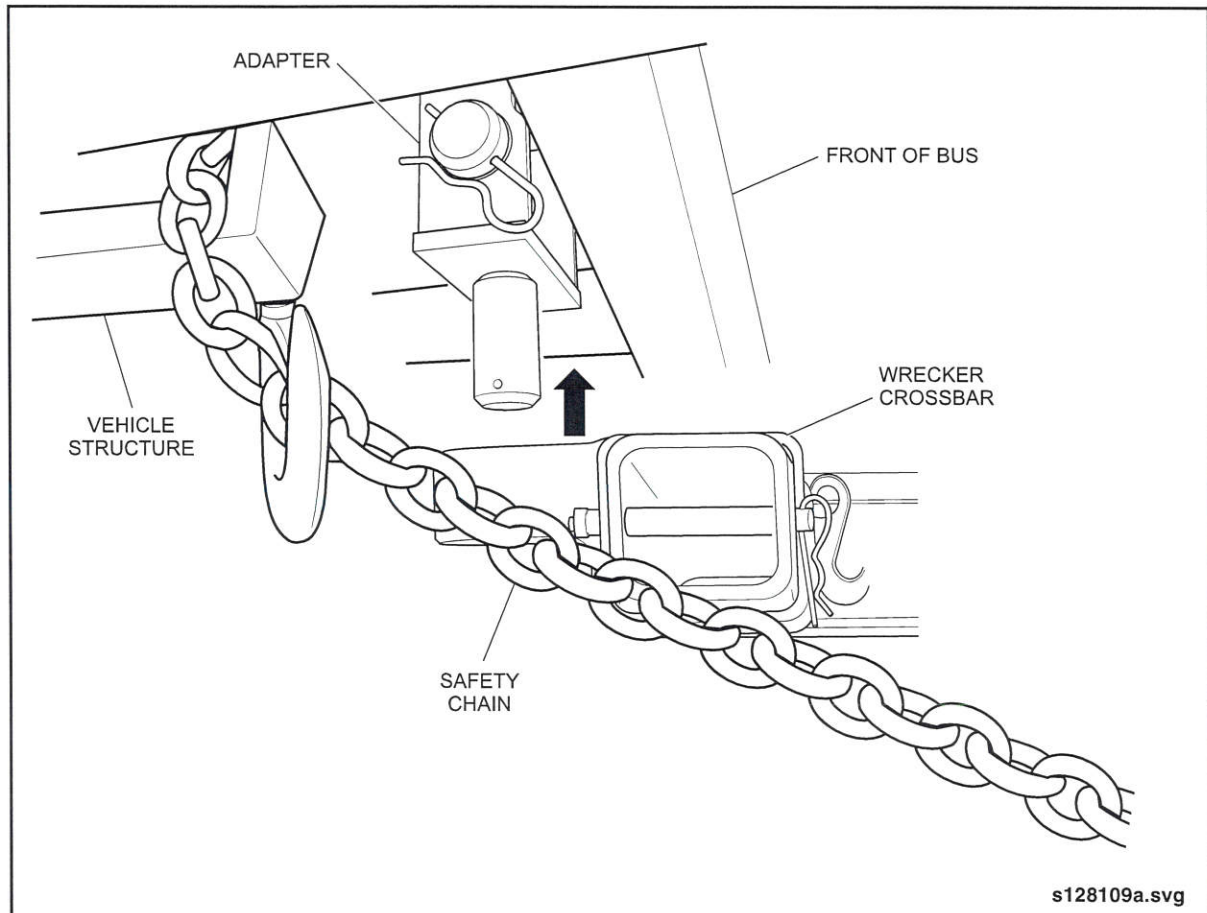

Fig. GI-23: Safety Chain
5. Attach two safety restraint chains from the towing vehicle to a fixed location on the towed vehicle. See "Fig. GI-23: Safety Chain" on page 44.